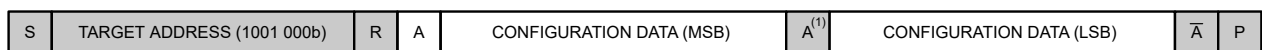

Figure 10-6. Read the Configuration Register to Check for OS = 1b
1. Write the Configuration register as shown in Figure 10-6 to configure the device (for example, when using the ADS1115L, write MUX[2:0] = 000b, PGA[2:0] = 010b, MODE = 1b, and DR[2:0] = 110b) and start a single-shot conversion (OS = 1b).
Alternatively, poll the OS bit for a 1b as shown in Figure 10-6 to determine when the conversion result is ready for retrieval. This option does not work in continuous-conversion mode because the OS bit always reads 0b.